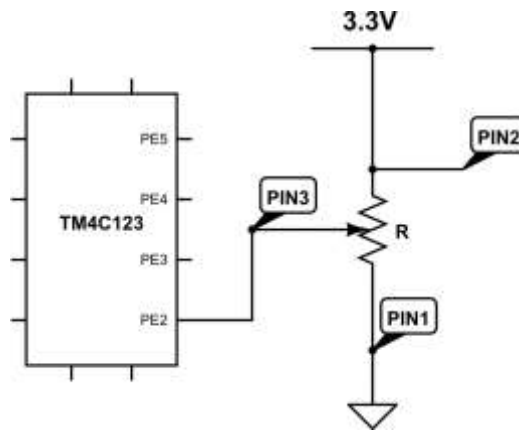

Figure 2
3. Solder three wires to the sides of the potentiometer, name them PIN1, PIN2 and PIN3. Refer to the potentiometer data sheet (652-PTA20432015CPB10) and Connect PIN1 to 0V, PIN2 to 3.3V and PIN3 to V_{in} (voltage input to TM4C123) as shown in figure 2.